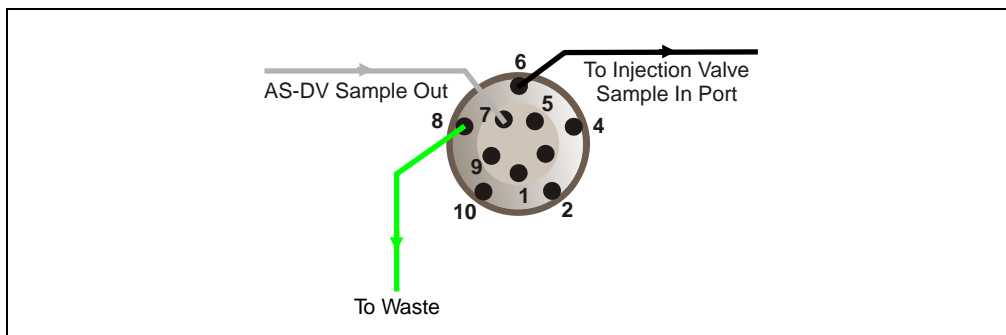

Figure B-7. 10-Port Valve Plumbing for Bleed Valve
- Plumbing the 10-port valve as a bleed valve (see Figure B-7).